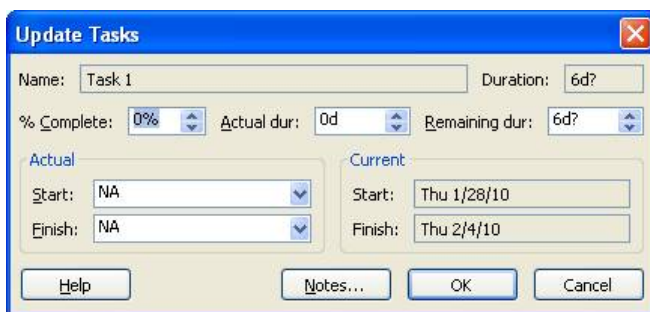

Figure 10 – Update Tasks Form
1) One can use the 'Update Tasks' form as shown in Figure 10 to enter actual data for each task. This method is the least preferred method because the form has to be closed after updating each task and opened again after selecting the next Task. This makes it very cumbersome to update large numbers of tasks.